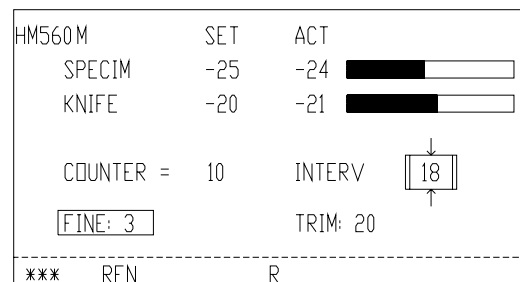

Fig. 32
- Press button (fig. 33.1) until the operating mode *single stroke* SINGLE is shown on the display (fig. 32).
- Press button (fig. 33.1) until the operating mode *interval stroke* INTERV is shown on the display (fig. 32).